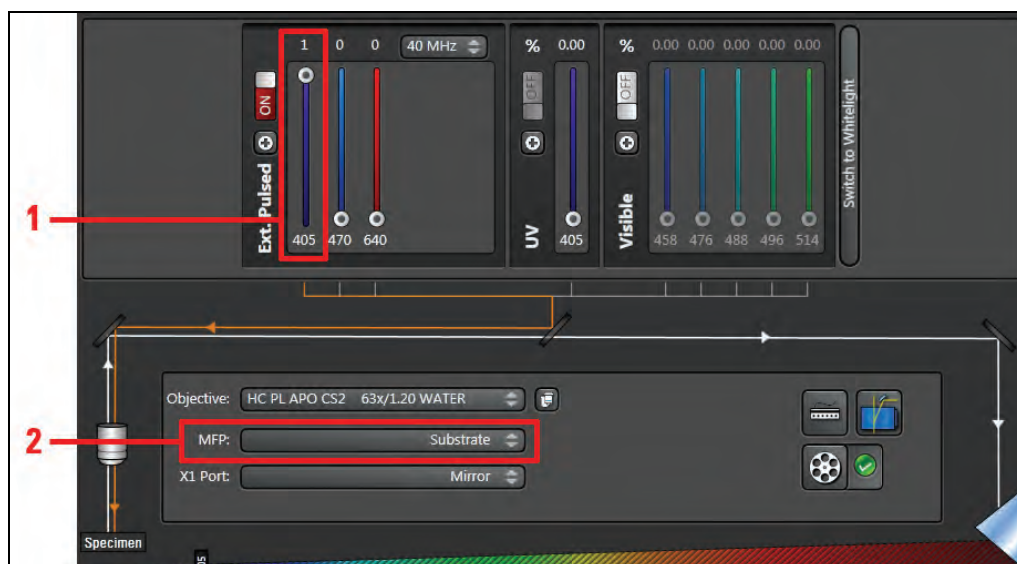

Figure 106: Settings for the UV lasers in Beam Path Settings
2. Activate the 405 nm laser by moving the corresponding slider upwards (**Figure 106, item 1**).
3. If no other pulsed laser is used, you can set the multifunction port (**MFP**) to **Substrate** (**Figure 106, item 2**).